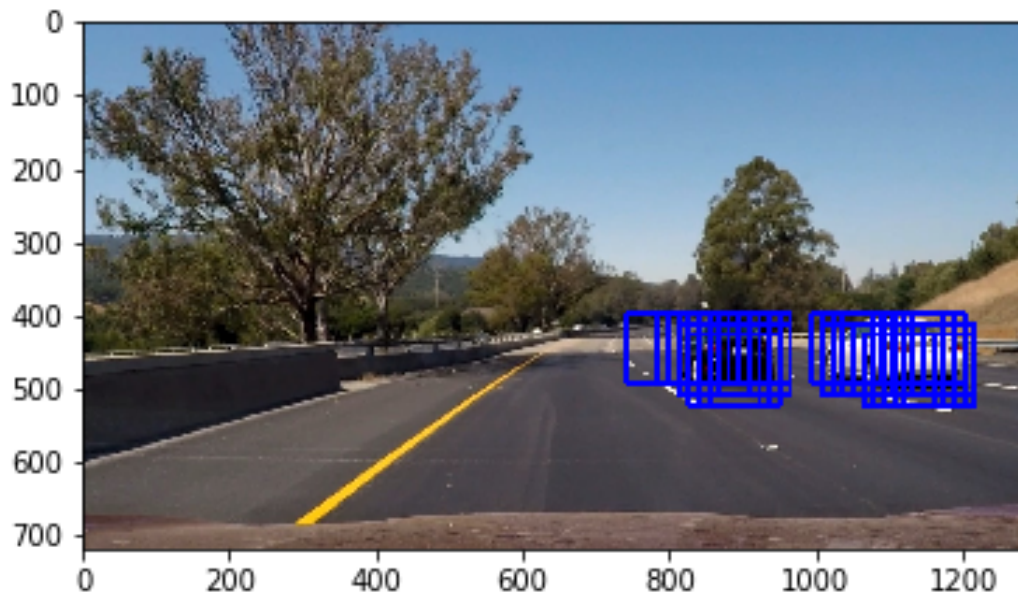

Figure 2.2: Sliding windows using YUV space
- I applied color transform from `colorspace RGB` to `'YUV'`. This is selected by trial-and-error. I also tried using `'YCrCb'` channel. Both of them achieved the better performance than other spaces. Fig 2.2 and 2.1 illustrated two windows detected by these two spaces.